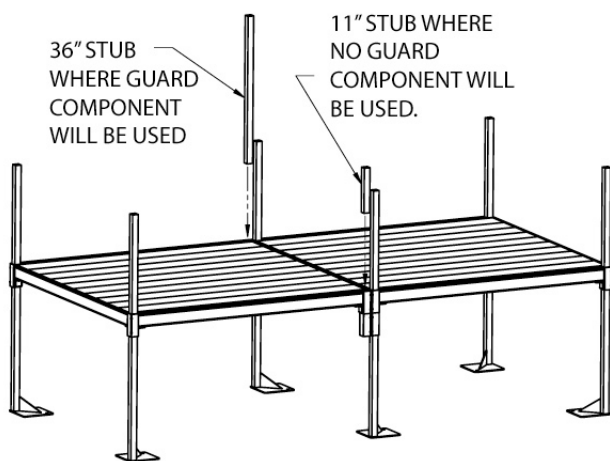

FIG. 7
- 1.6.5 Install two 1-1/2" square x 36" long tube through platform corner pockets and connectors until it aligns with bottom of connector, then tighten all setscrews securely (FIG. 7).